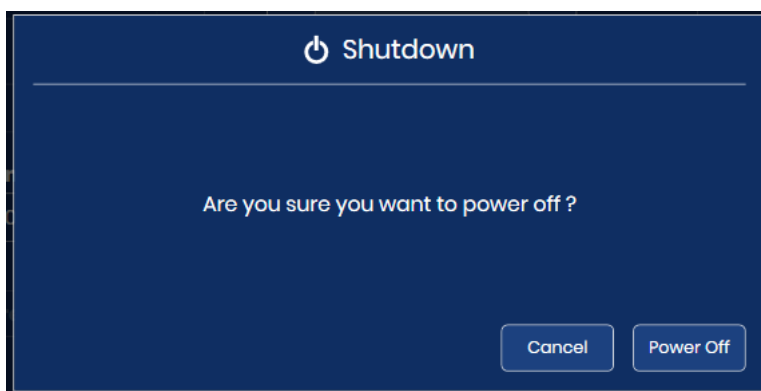

Figure 4-25 Confirm Shutdown
4. Select **Power Off** on the confirmation screen to continue with shutdown. (See Figure 4-25).